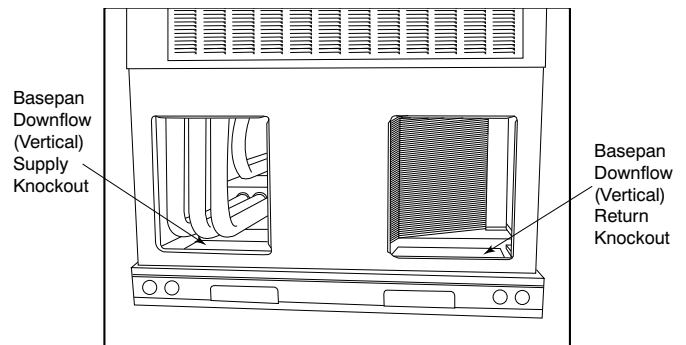

Fig. 8 – Supply and Return Duct Opening
The flue assembly is secured and shipped in the return air duct. Remove duct cover to locate the assembly (See Fig. 8).
2. Remove flue hood from shipping location (inside the return section of the blower compartment-see Fig. 8). Remove the return duct cover to locate the flue hood. Place flue hood assembly over flue panel. Orient screw holes in flue hood with holes in the flue panel.
2. Remove horizontal (metal) duct covers to access vertical (downflow) discharge duct knockouts in unit basepan. (See Fig. 8.)